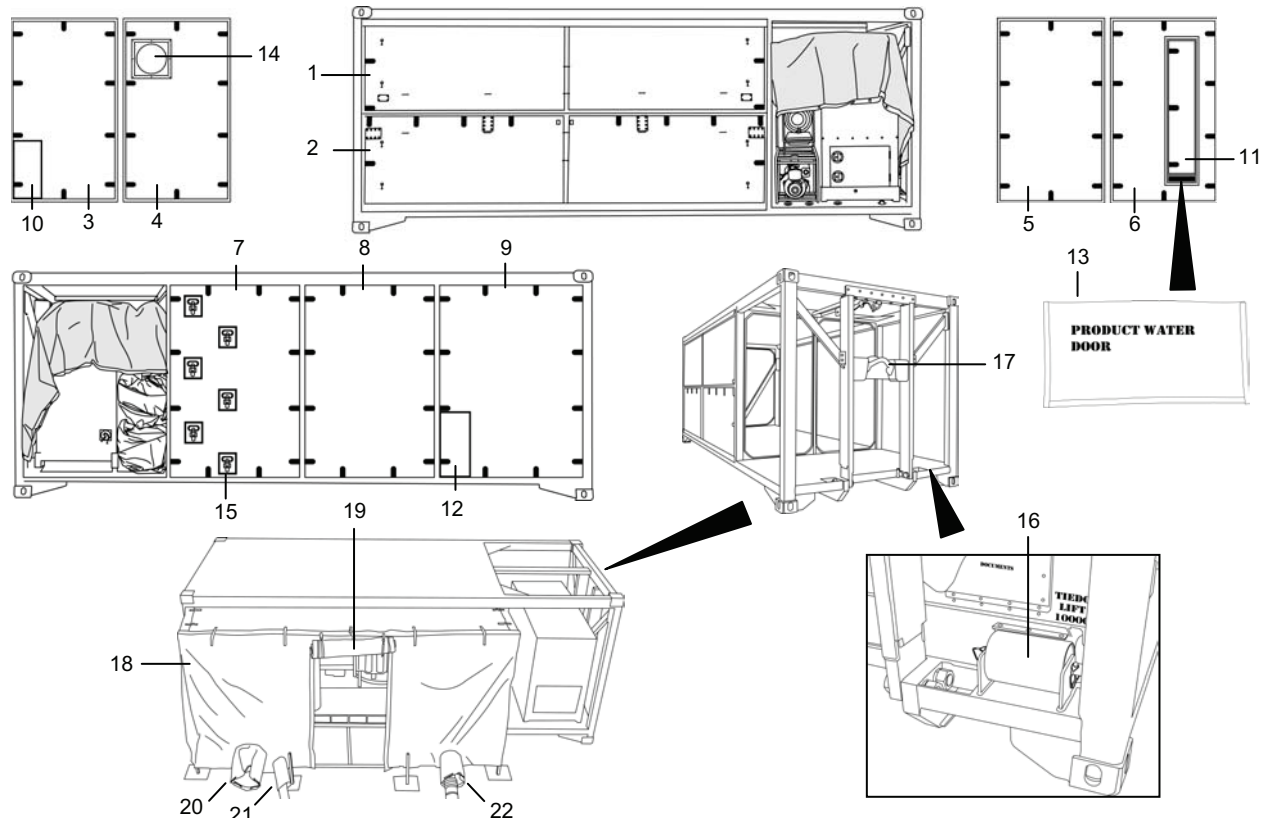

Figure 6. A-TWPS Flat Rack and Fabric Wall.
The A-TWPS flat rack (see Figure 6) has two panels in front that are opened during deployment. When opened, the top panel serves as a roof / overhang (1) and the bottom panel serves as a floor (2). Two panels at both ends of the flat rack (3 through 6) and three panels at the back (7 through 9) are removable for access or ventilation. Hinged doors in three of the panels allow easy access for connecting power cables (10) or for operating valves (11, 12). A shipping cover with hook and loop material (13) is secured over the opening below the product water access door (11) to keep the elements out during storage. A return air cover plate (14) in one of the left end panels can be removed when needed during cold weather so that a cold air return duct in the heating system can be hooked up to the panel. Folding steps (15) are incorporated in the back panel closest to the TQG area for access to the top of the flat rack. Two rollers (16) are stored at the TQG end of the flat rack near a bail bar (17). The rollers are installed at the opposite end of the flat rack when loading the flat rack onto an MTVR trailer. The bail bar is used to lift and pull the flat rack onto an MTVR.